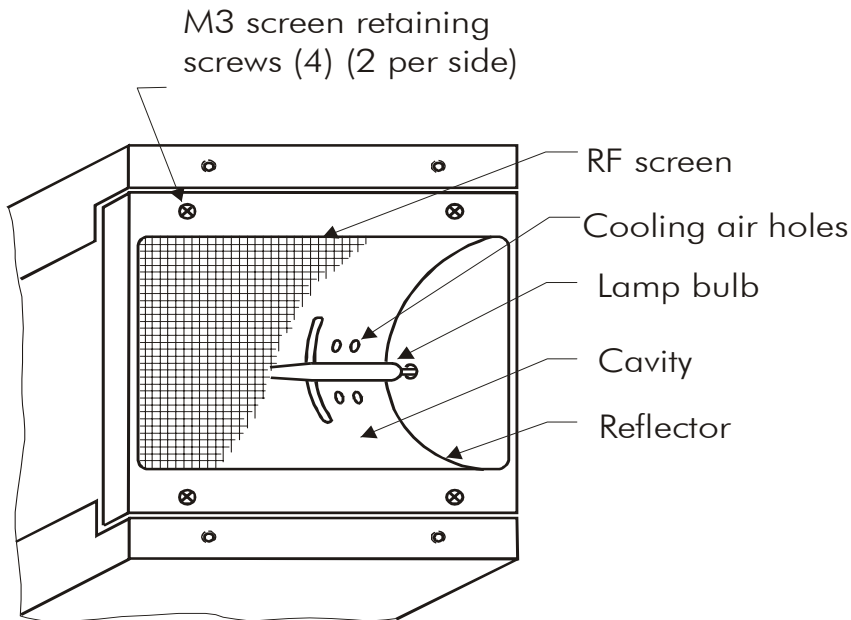

Figure 31. Reflector Assembly (I310M/I311M)
1. Refer to Figure 31. Loosen the four M3 screen retaining screws, using three turns each. Repeat, this time removing screws. Grasp the screen frame by both ends, taking care not to twist or bend the screen itself, and remove the screen assembly.